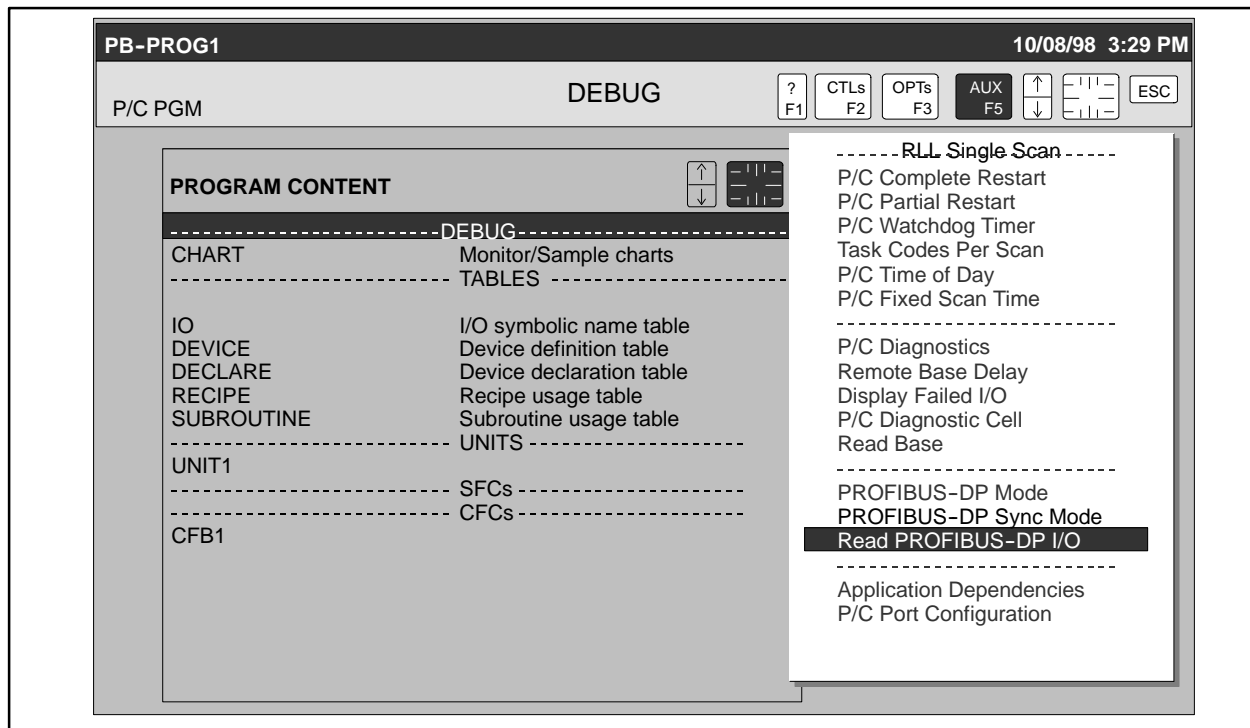

Figure 9-25 Selecting Read PROFIBUS-DP I/O
2. Use the arrow keys to highlight **Read PROFIBUS-DP I/O** (Figure 9-25).